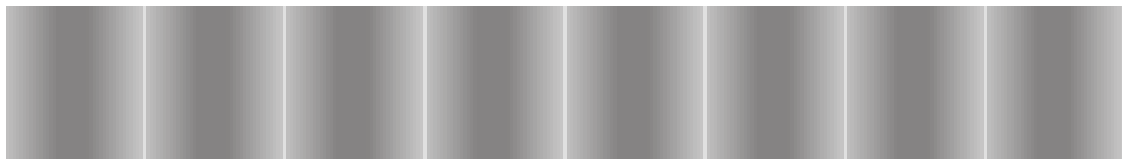

Fig. 46: Test Image One
- If the camera is set for an exposure mode that uses an ExSync signal, the ExSync signal must be present and must toggle in order to output a line on the test image. Multiple transitions of the ExSync signal will produce a two dimensional image as shown in Figure 46 on page 143 or Figure 48 on page 144.